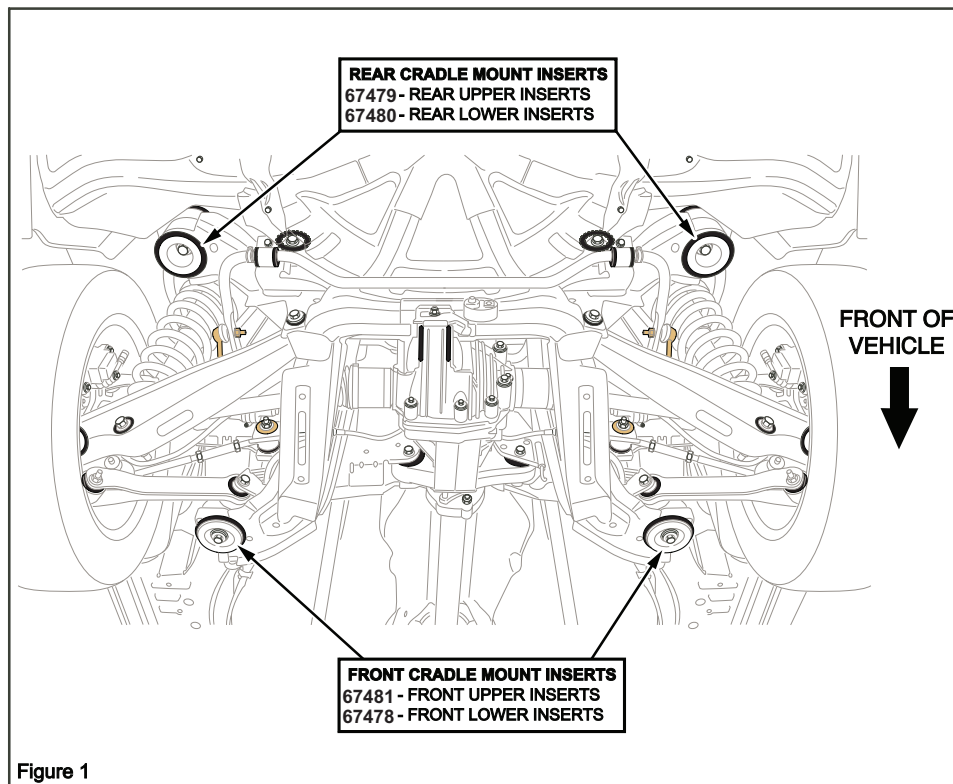

Figure 1
2. Remove front mount points (vertical) bolts. (Figure 1).
3. Loosen only rear mount points (vertical) bolts. (Figure 1).
9. With the front mount retaining bolts refitted hand tight only, remove the rear (vertical) retaining bolts. (Figure 1).